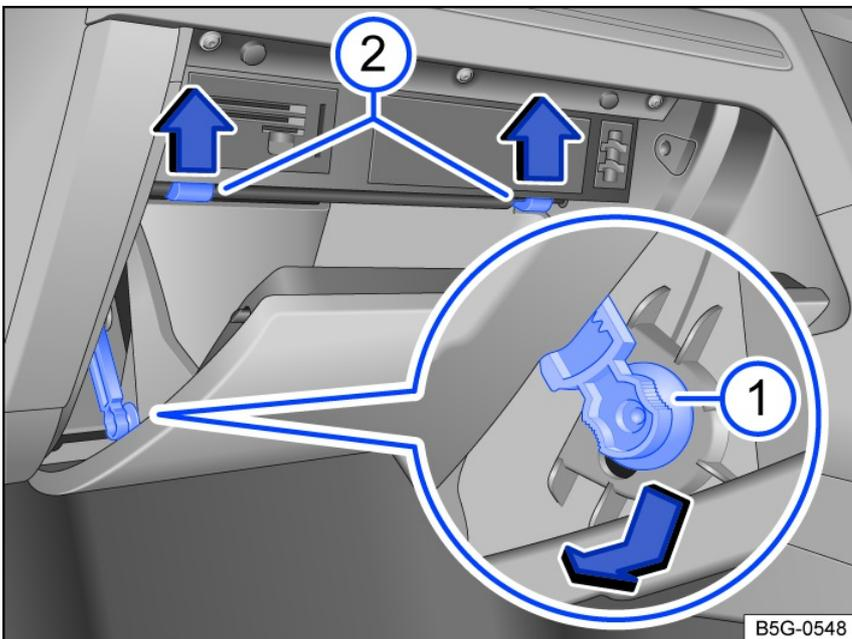

Fig. 185 On the passenger's side: Fuse box cover in the instrument panel (right-hand drive vehicles).
2. Push the damper element in the direction of the arrow and into the opening in the bracket, before pulling it out sideways *fig. 185* ①.
3. Push the catches up in the direction of the arrow while at the same time opening the storage compartment further *fig. 185* ②.
2. Fit the damper element into the opening in the bracket and push it in the opposite direction to the arrow *fig. 185* ① until you hear it click into place.
3. Push the storage compartment carefully forwards past the resistance of the stop pin *fig. 185* ②.